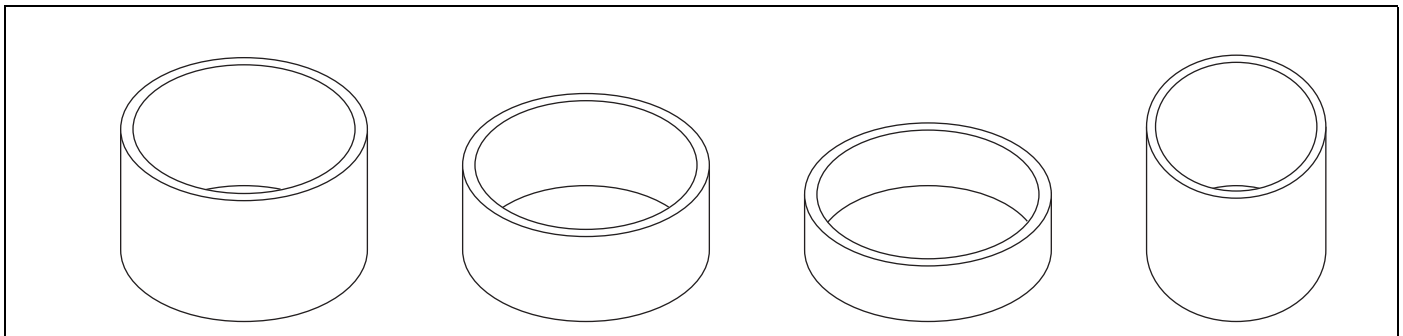

Figure 3 Bottle Spacing Rings
2. Insert the proper size spacer ring, supplied with your system, into the bottom of the bottle holder to adjust the height of your SCBA bottle (Figure 3). Different SCBA bottles have different lengths. A proper height adjustment will leave the bottle valve slightly below the rim of the bottle holder.